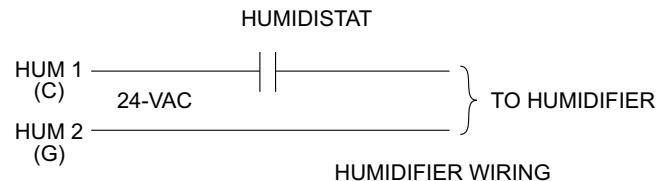
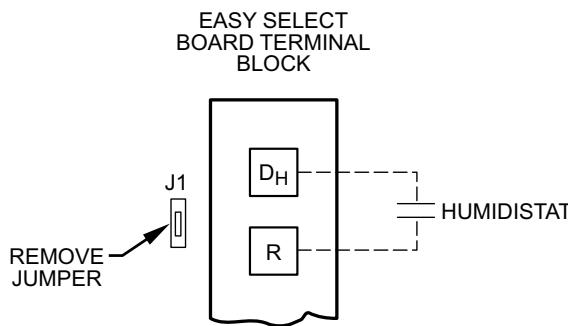

Fig. 22 – Humidifier Wiring
Fig. 23 – Humidistat Wiring for De-Humidify Mode A95316
Easy Select Board terminals HUM1 and HUM2 are provided for direct connection to the low-voltage control of a humidifier through a standard humidistat (see Fig. 22). These terminals are energized with 24VAC when G thermostat signal is present (see Fig. 23). Alternately, the 24VAC signal may be sourced from the W and C terminal block connections when electric heaters are used as primary heating source.
Latent capacities for systems using the Fan Coil are better than average systems. If increased latent capacity is an application requirement, the field wiring terminal block provides connection terminals for use of a standard humidistat. The Fan Coil will detect the humidistat contacts opening on increasing humidity and reduce its airflow to approximately 80% of nominal cooling mode airflow. This reduction will increase the system latent capacity until the humidity falls to a level which causes the humidistat to close its contacts. When the contacts close, the airflow will return to 100% of the selected cooling airflow. To activate this mode, remove Jumper J1 and wire in a standard humidistat (see Fig. 23).
5. Verify low-voltage control signals to motor. The motor receives its control signals through the 12-pin plug (PL-1) on Easy Select Board and 16-pin plug on wiring harness (see Troubleshooting Example). The combinations of pins energized will determine motor speed (see Fig. 23). See Fig. 20 for circuit board, low-voltage screw terminals energized and for voltage present at each pin on 12-pin plug (PL-1). See Fig. 20 for pin number on 16-pin plug which should have voltage when Easy Select Board screw terminals have 24VAC.